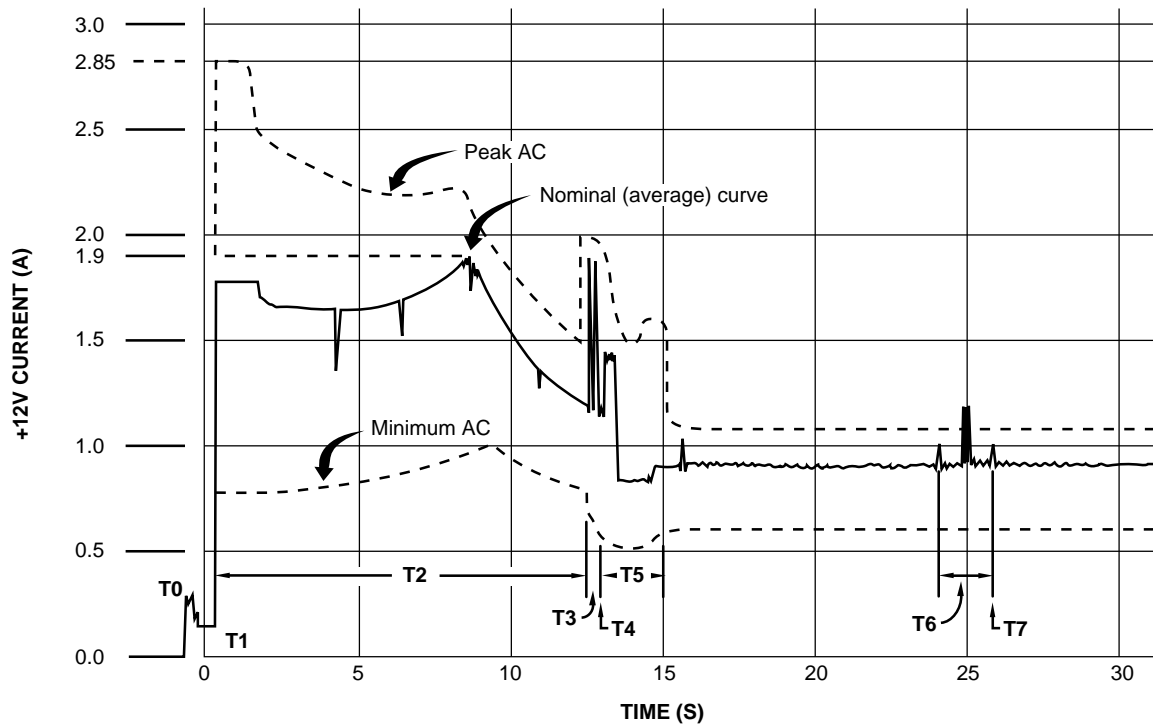

Figure 10. Typical Barracuda 2, 2HP drive +12V current profile
- [3] See Figure 10.
Figure 10 identifies the drive's +12V current profile. The current during the various times is as shown.